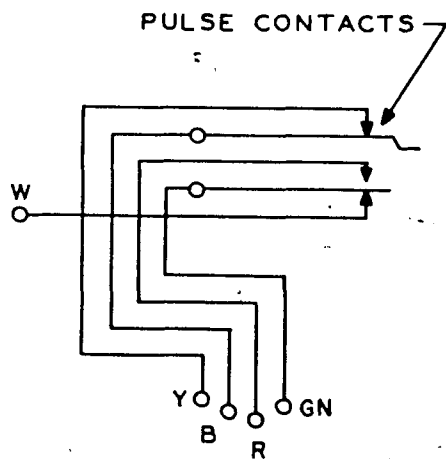

Fig. 2
- Dial contact schematics (Fig. 2 and 3).